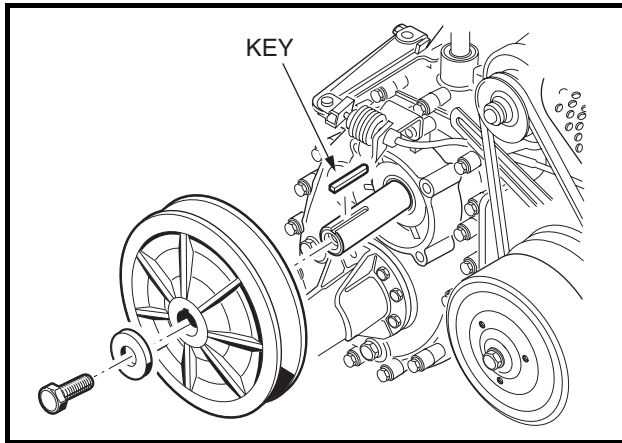

Figure 16-38 Driven Clutch
9. Install the key onto the input shaft (Figure 16-38, Page 16-15).
10. Position the driven clutch on the transaxle input shaft and install the washer (yellow side facing out) and mounting bolt. Tighten the mounting bolt to 14 ft-lb (19.0 N·m) (Figure 16-38, Page 16-15).